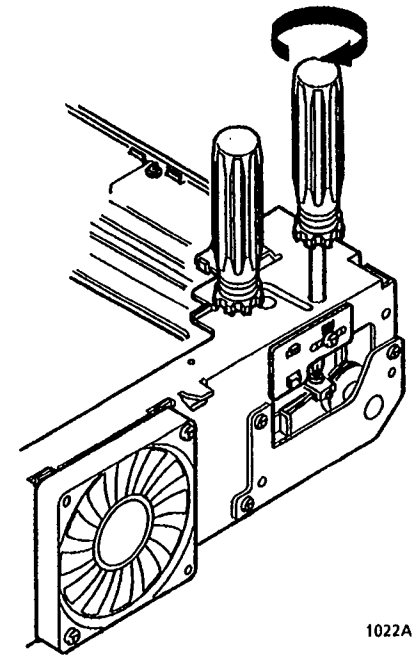

Figure 4. Reattaching the Full-Rate Lamp Carriage
3. (Figure 4): Reattach the Full-Rate Lamp Carriage.